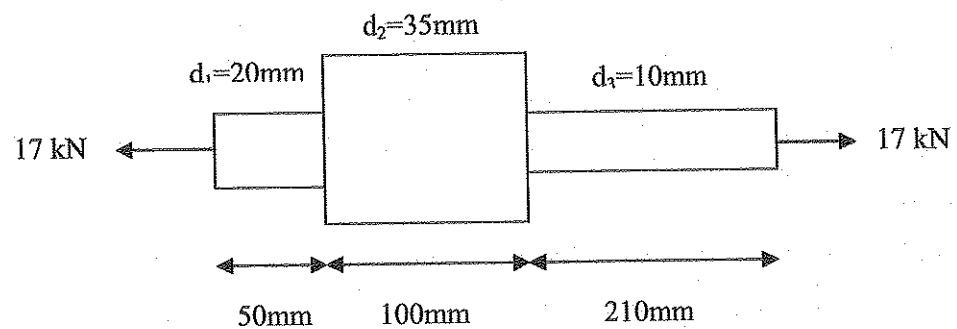

Figure A1(c) / Rajah A1(c)
- (c) A copper bar as shown in **Figure A1(c)**, has been imposed to 17kN tensile load. If the Modulus of Elasticity of copper is 150MPa, calculate: